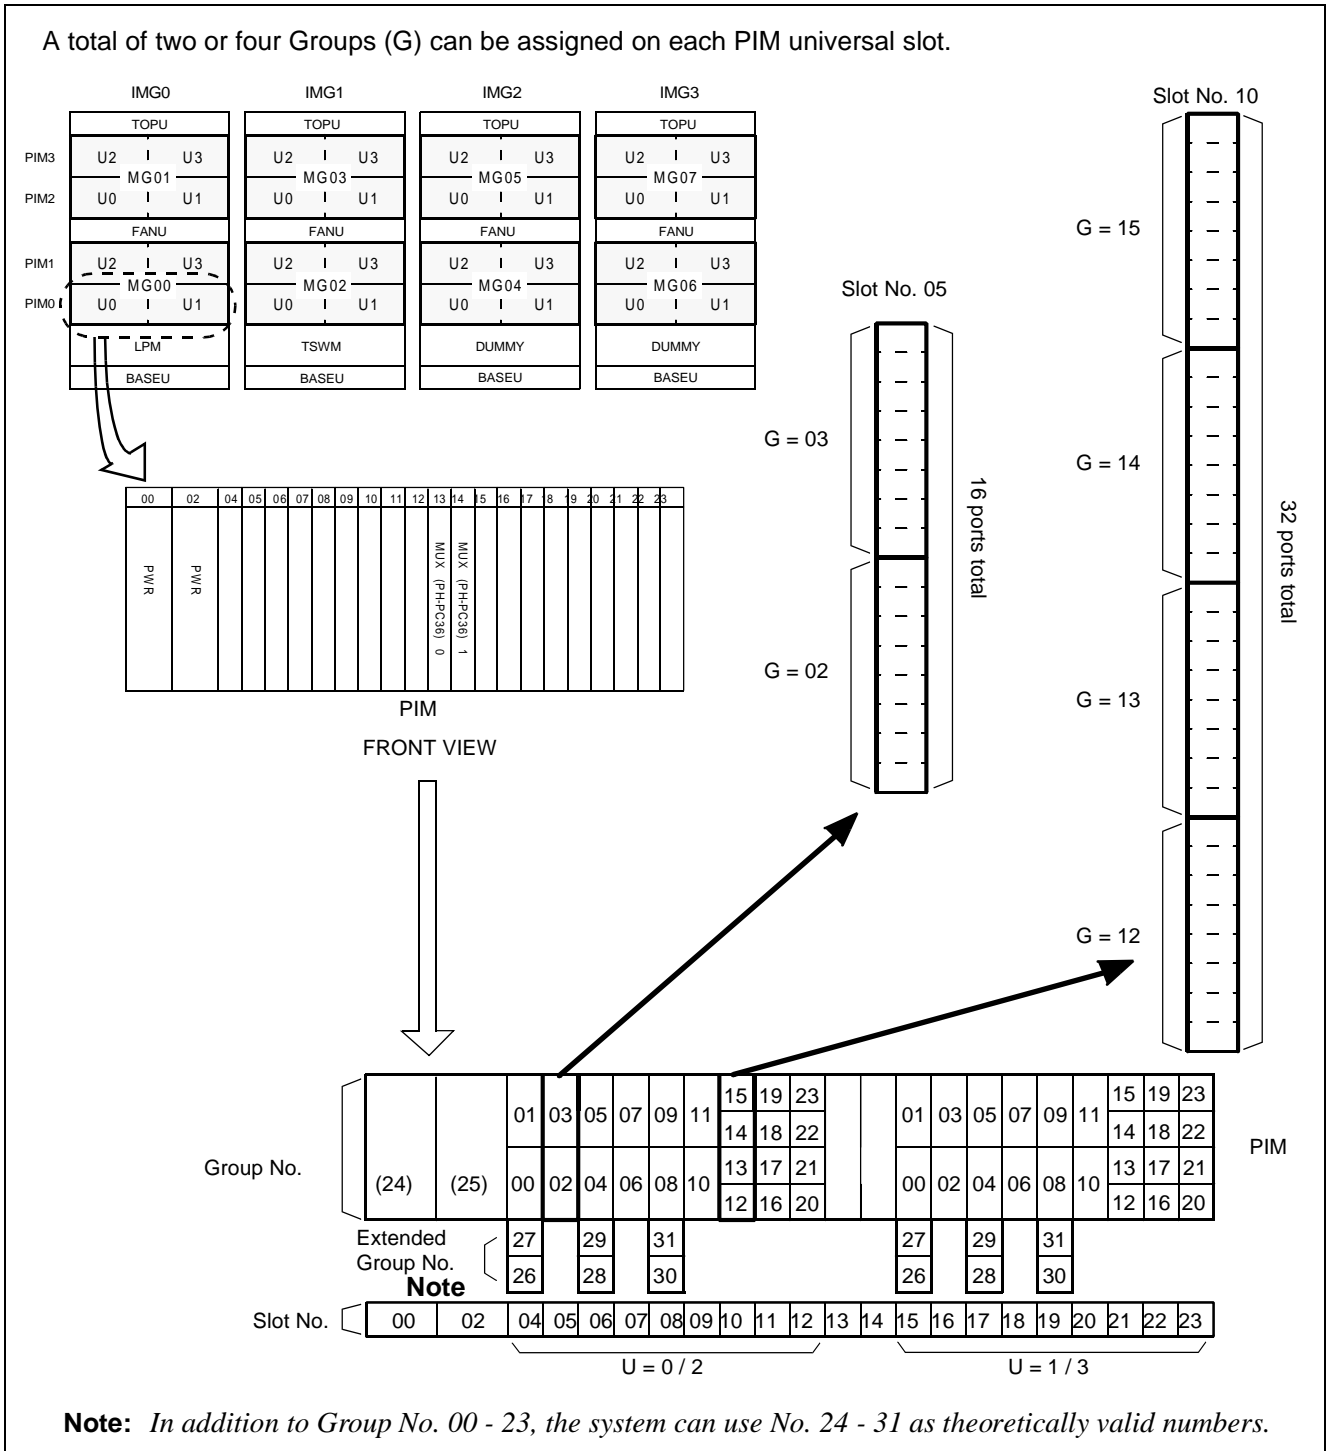

Figure 2-9 Group Number Allocations
The Group (G) numbers are allocated as shown in Figure 2-9. A total of two Groups are assigned on each universal slots within the PIM. Slot numbers 10, 11, 12, 21, 22, 23 can contain a total of four Groups as an exception.